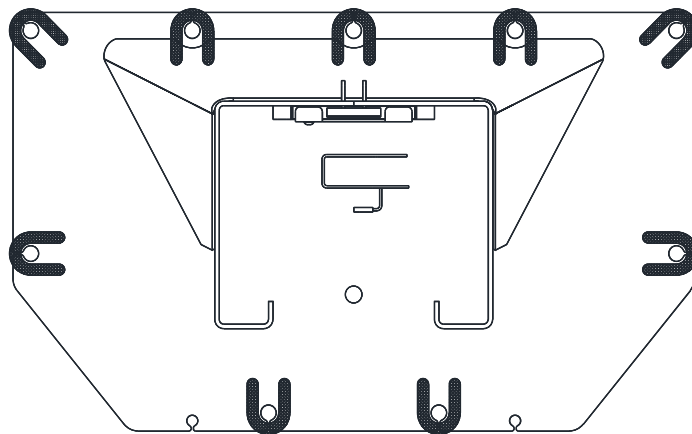

Fig. 5 – Column Shimming
- 20) Repeat steps 15 thru 17 for the two (2) anchors under each carriage.
- 21) Shim both columns to plumb using the shims provided as shown in **Fig. 5**. DO NOT shim more than 1/2" at any given point. Use a level no less than 24" in length to plumb columns.
- 26) Check idler column shimming. Use additional shims (**see Fig. 5**) to remove any gaps that may have been created while installing overhead beam. Tighten anchor bolts and re-check column for plumb. Torque to 150 foot-pounds.